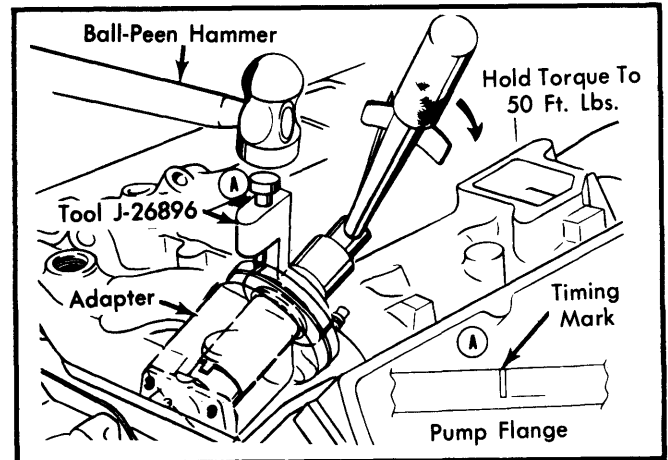

Fig. 9 Holding Torque on Adapter While Marking Timing Marks
- 8) While holding torque, mark injection pump, lines and air crossover assembly. See Fig. 9.